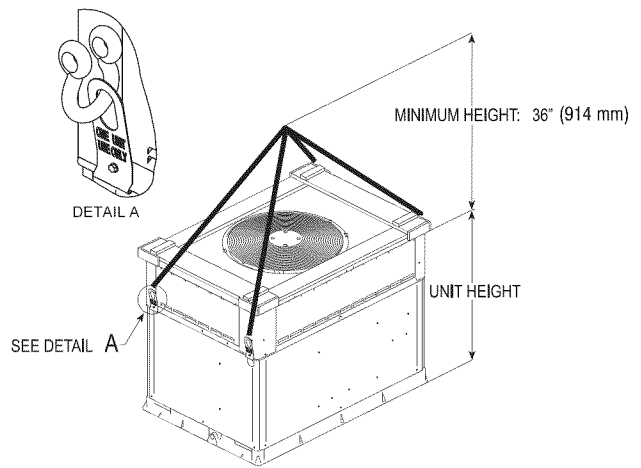

Fig. 10 - Lifting Point
11. Attach field-supplied clevis or hook of sufficient strength to hole in the lifting bracket (See Fig. 10).
12. Attach the 2 safety straps directly to the clevis or hook at the 4 rigging brackets. DO NOT attach the safety straps to the lifting brackets (See Fig. 10).